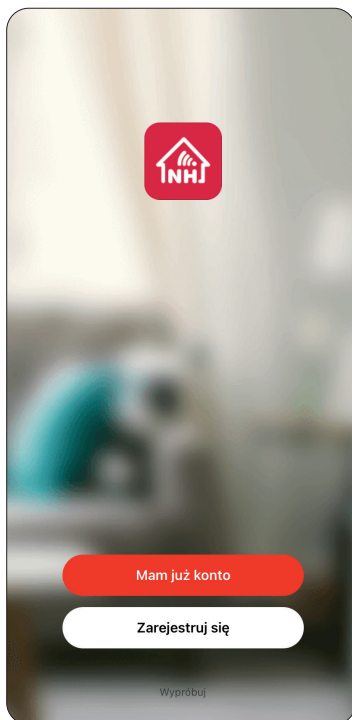

Fig. 3
- If you do not have an account in the application, you should create one by clicking the "Register" button (Fig. 3).